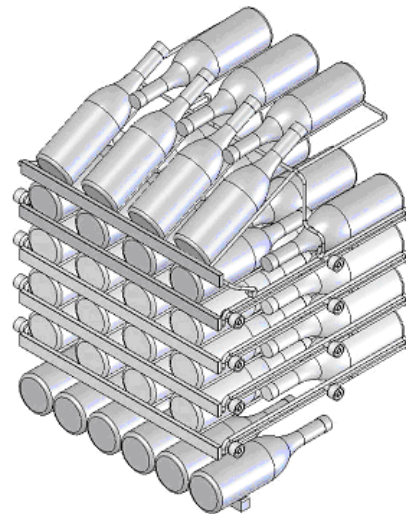

Figure 15
Position white wines on the middle or lower racks and red wines on the upper racks (see Figure 15). Two (2) magnums can be placed in the bottle cradle as long as they are positioned horizontally.